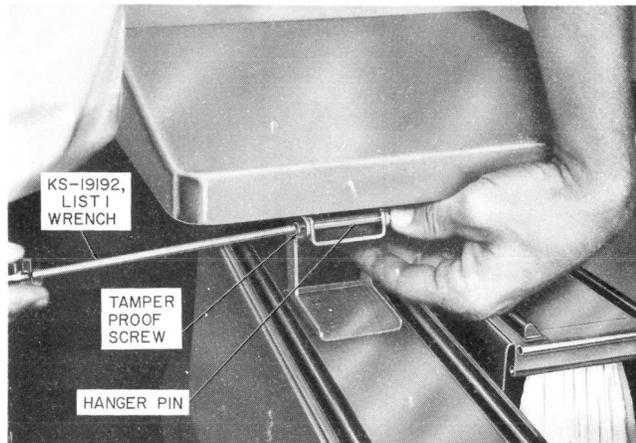

Fig. 7 — Removing Hanger From Hanger Assembly
4.07 If it becomes necessary to remove the directory hanger from the hanger assembly, remove the tamper proof screw, using a KS-19192, List 1 wrench, and remove B-563043 hanger pin (Fig. 7).